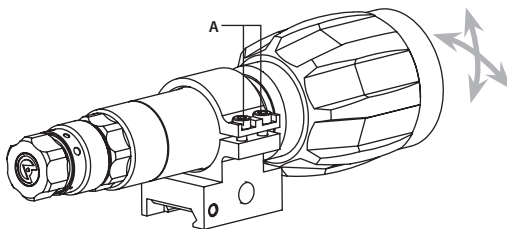

FIGURE 5. IRSPOT POSITION ADJUSTMENT
4. Adjust the IR spot position in the field of view of the NVD as follows (refer to Figure 5):
- a) loosen the screws (A) of the clamp on the IR illuminator mount (using a 2.5 mm hex key);
- d) once the IR spot is centered in the field of view, tighten the fixing screws (A) of the clamp.